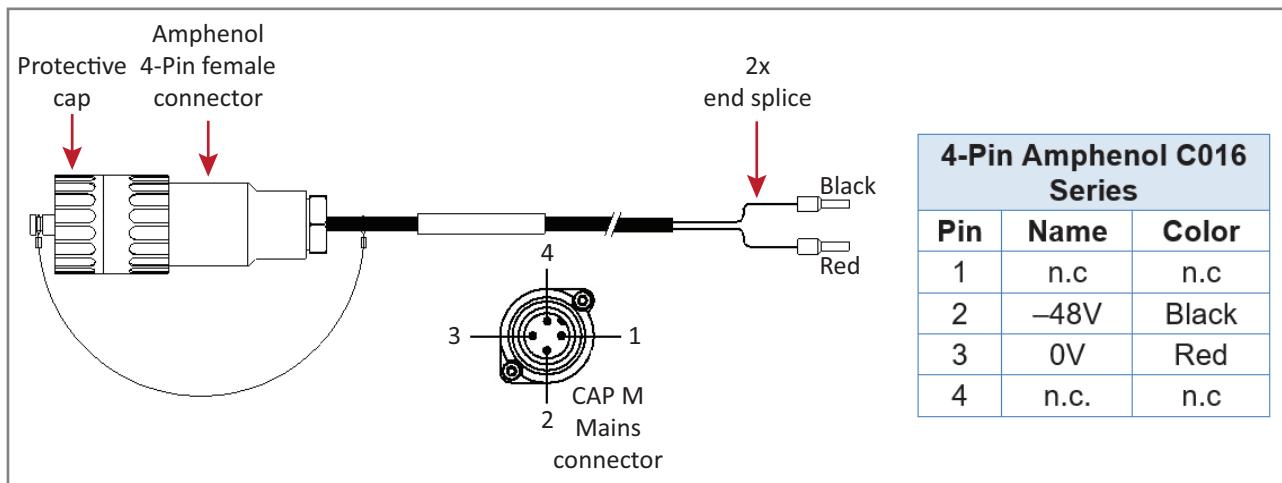

Figure 18. CAP MX DC Power Cable
The standard CAP MX DC power cable is a 3.2 m (10.5 ft) 13 AWG cable with a 4-pin Amphenol C016 series plug on one end to connect to the CAP MX Mains connector. The other end of the cable is unterminated with 2 end splices to connect to the -48 Vdc power source. The standard DC power cable is shown in Figure 18.
- Figure 18 on page 60 for the DC power cable.